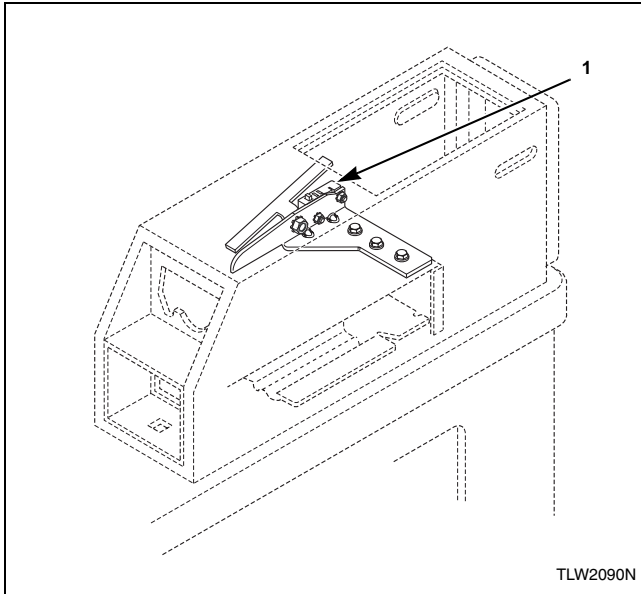

Figure 38
**NOTE: During coin slide installation, make sure activation lever is up and off the switch. Refer to Figure 38.**